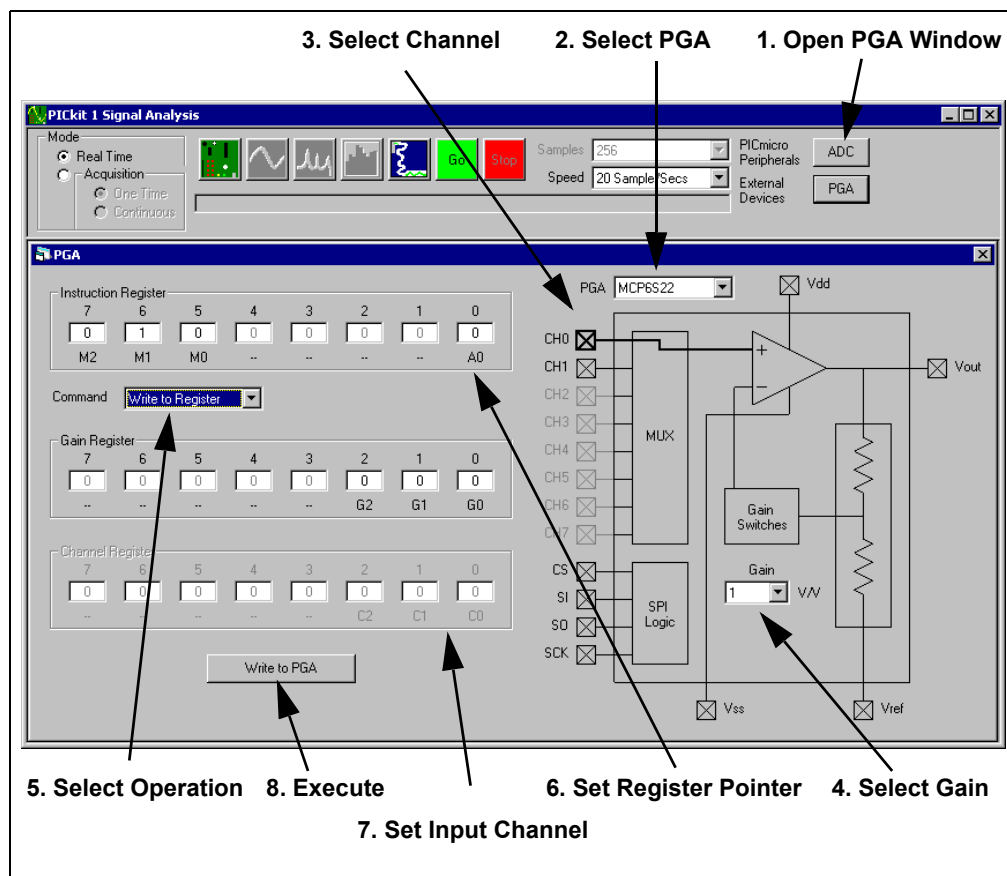

FIGURE 3-4: PGA Configuration.
The PICKit 1 Signal Analysis PC program can configure the PGA; see Figure 3-4. The MCP6S22 PGA defaults to a gain of 1 and CH0.
- a. Select **Write to Register** from the indicated pull-down list. (Figure 3-4, #5)
- b. Set A0 = 1. (Figure 3-4, #6)
- c. Set C2:C0 to all zeros. (Figure 3-4, #7)
- d. Execute the command by clicking on the **Write to PGA** button. (Figure 3-4, #8)
- b. Set A0 = 0. (Figure 3-4, #6)
- c. Select PGA gain from the pull-down list. (Figure 3-4, #4)